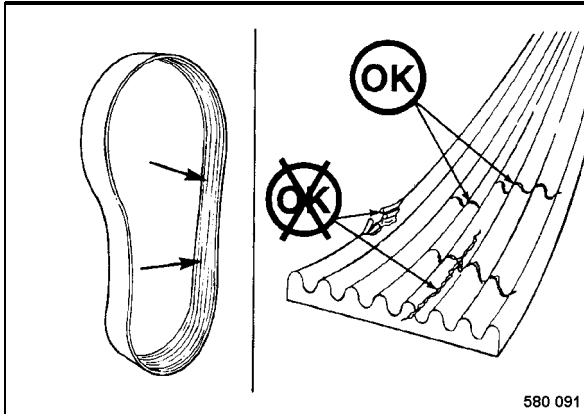

Fig. 75
- Check the condition of the V-belt (Fig. 75). Small cracks in transverse direction are permitted. Crack in longitudinal direction are not permitted.